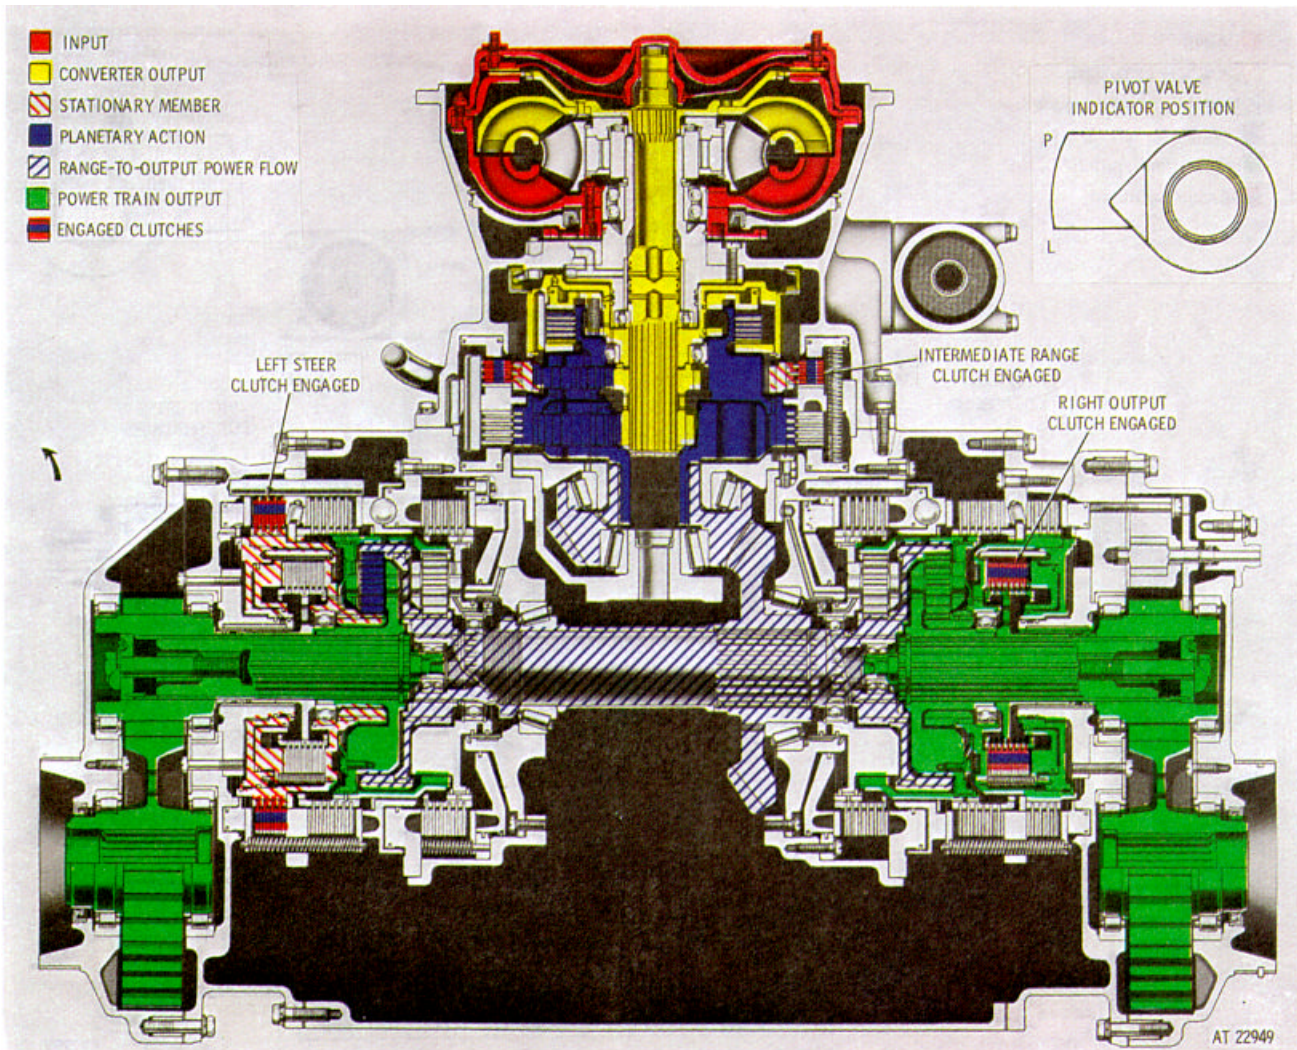

Figure 2-23. *Third Gear, normal left steer operation-torque path.*
(3) In second gear, normal left steer operates in the same manner as right steer except that the actions described in (1) and (2), above, take place in opposite sides of the power train. (The left steer clutch is engaged, while the right transmission output drives as in second-gear straight travel.)
c. *Third Gear, Normal Left Steer (fig. 2-23).*